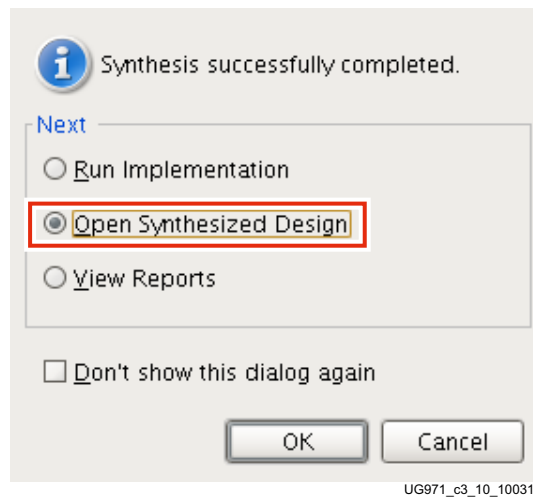

Figure 3-10: Synthesis Completed
- When synthesis is done, a Synthesis Complete window pops up. Select **Open Synthesized Design** and click **OK** (Figure 3-10).